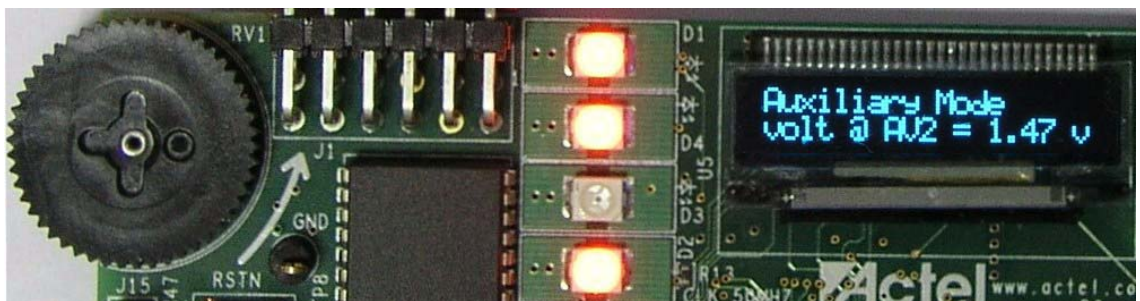

Figure 2-12 · Auxiliary Mode – Voltage Measurement at AV2 Channel
- Press SW3 to see the voltage measurement at the AV2 channel and the results on the OLED (Figure 2-12).